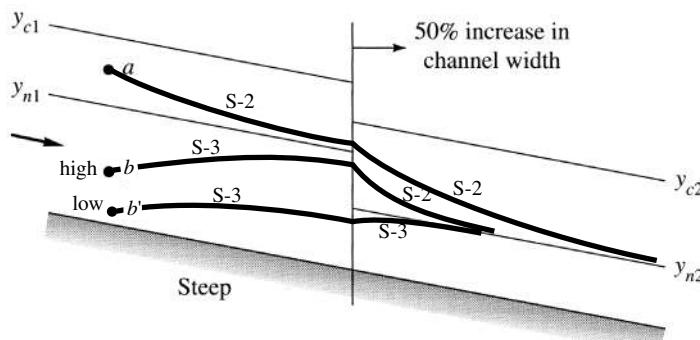

Fig. P10.104
**10.104** The rectangular channel flow in Fig. P10.104 expands to a cross-section 50% wider. Beginning at points *a* and *b*, sketch and label the water-surface profiles which are expected for gradually-varied flow.